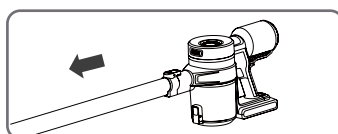

Figure 2
- To remove the aluminium tube, hold the main body with one hand and pull it out with the other hand while pressing the lock button (Figure 2).